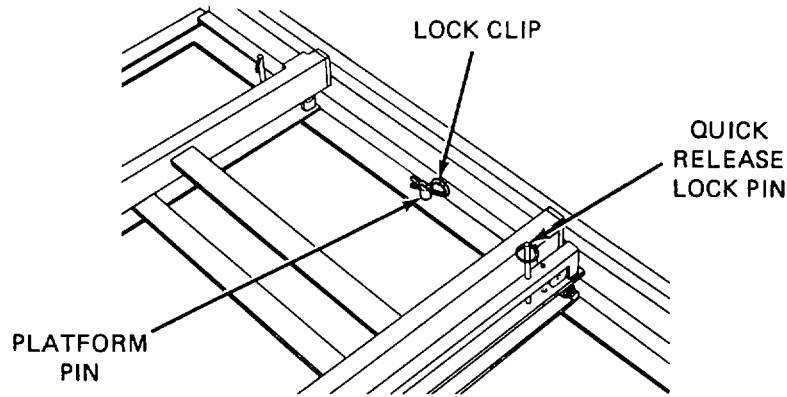
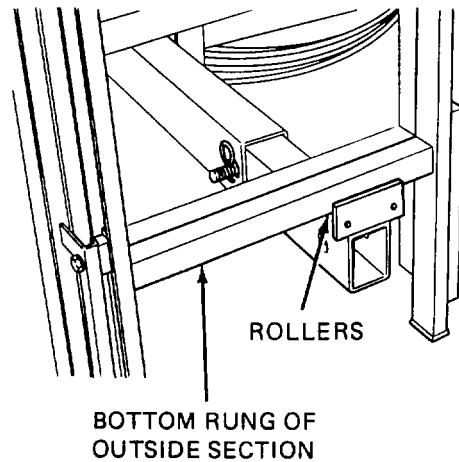

Figure 2-19. Ladder Lock Clip
Figure 2-20. Platform Ladder and Support.
- (e) Remove ladder lock clip. See Figure 2-19.
- (g) Remove two ladder quick release locking pins (Figure 2-19) and place the bottom rung of the OUTSIDE ladder section on rollers of ladder support (Figure 2-20). Reinstall the quick release locking pins in the first two holes only.
- (c) Lift OUTSIDE section of ladder and install two ladder quick release locking pins. See Figure 2-19.
- (e) Align hole in top rung of inside section of ladder with pin on platform. Install lock clip in pin to secure ladder to platform. See Figure 2-20.